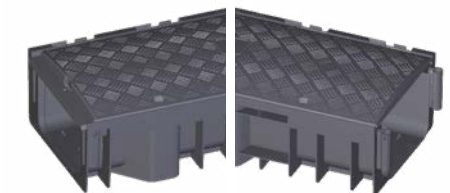

Figure 3: Angular piece for 45° angular element
6. Align the butt edges of the angular pieces with each other as shown in Figure 3 and Figure 4 to manufacture the required angular element.